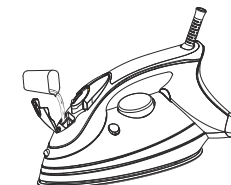

Fig.4
- Using a cup, slowly pour tap water or distilled water into the reservoir as show in figure 4. Never to fill beyond the Max filling line.